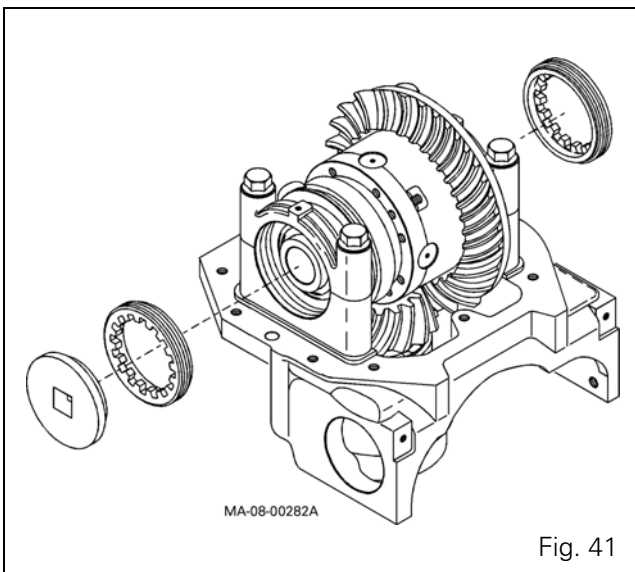

Fig. 41
- 47.** Assemble and tighten the two adjustment nuts in the differential housing using special tools ref. CA119030 and CA119149 (see § J) to eliminate the backlash and slightly preload the differential bearings (Fig. 41).